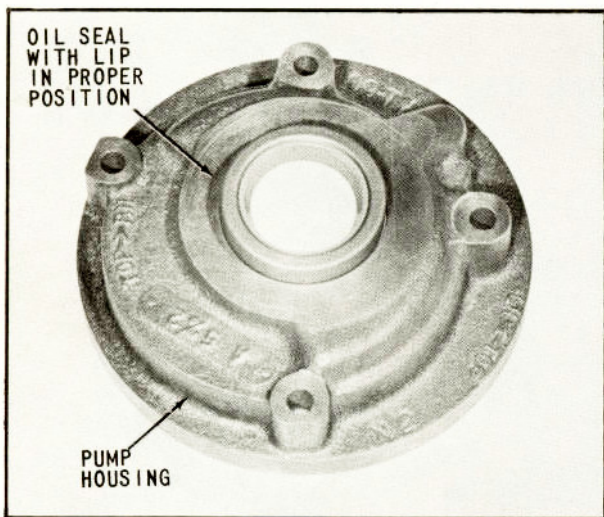

Fig. 89 Installing Oil Seal
6. Place pump housing squarely on arbor press table. Apply a suitable sealant to the outside diameter of seal before installing squarely into bore of housing with seal lip positioned as shown in (Fig. 89). Caution should be observed to insure that too much sealant is not used, that any excess is wiped away after the seal is installed, and that the sealant does not get on the sealing element.